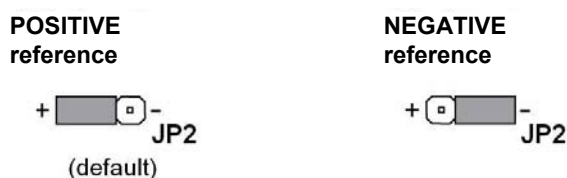

Figure 10 - Electric outputs hardware configuration
The Figure 10 is an example of jumper JP2 (Q) position.